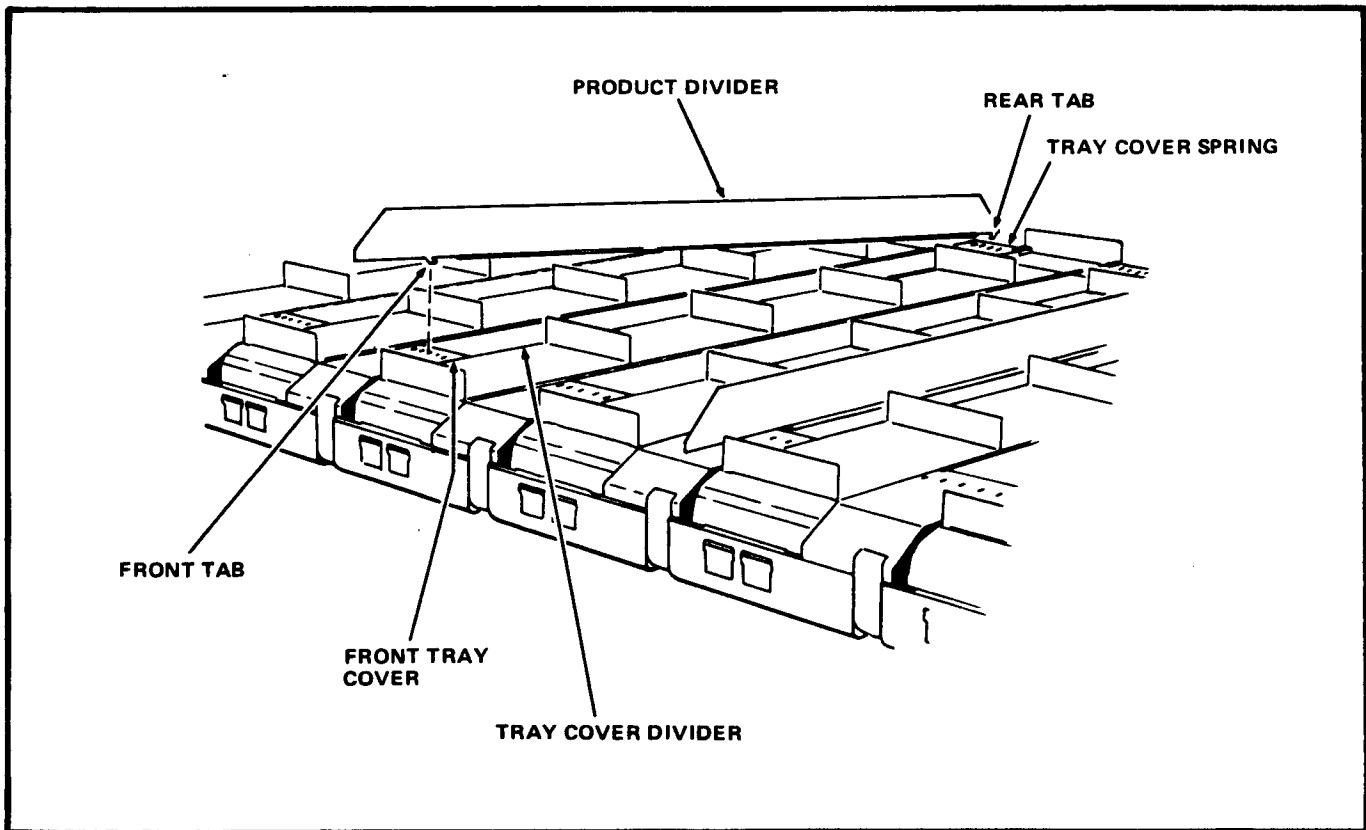

FIGURE 2
- a. Pull the Product Divider forward and lift the Front Tab on the Divider out of the slot in the Front Tray Cover. See Figure 2.
- b. Push the Product Divider back gently and lift the Rear Tab on the Divider out of the slot in the Tray Cover Spring. See Figure 2.